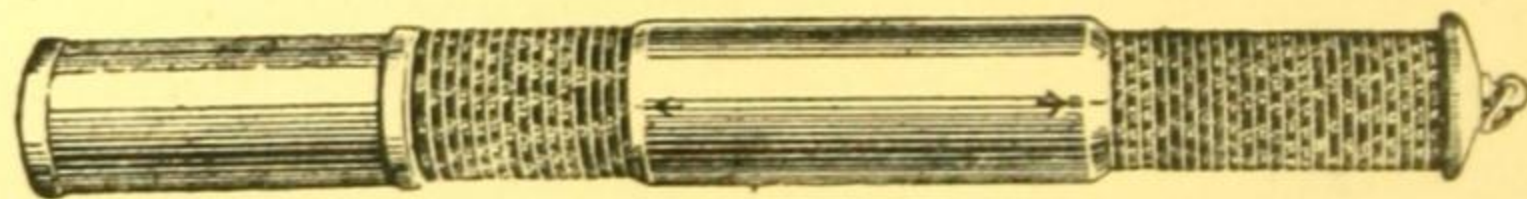

Fig. 165. Otis King Calculator.
**The Otis King Calculator** consisting of two metal cylinders on which spiral logarithmic scales are mounted. The smaller cylinder is free to slide and rotate within the larger cylinder, on which there is an adjustable tubular cursor. The size of the calculator when closed is  $6 \times 1\frac{1}{8}$ -inches and it extends to 10-inches. The length of the spiral scale is 66-inches, giving very open divisions. There are two models. Fig. 165.